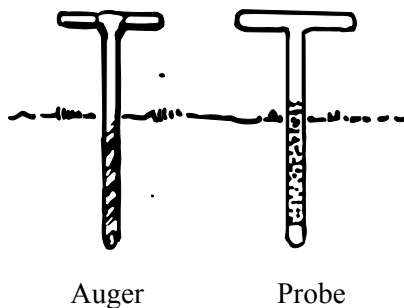

Figure 1. Soil probe or an auger marked for 6-inch depth is the recommended tools for collecting soil samples.
1. **Obtain the correct tool for soil sampling.** The recommended tool is a soil probe or auger marked for a six-inch depth (Figure 1). A clean plastic bucket is also needed to hold and mix soil cores before putting them in sample bag or other designated container.. (OSU Soil, Water and Forage Analytical Laboratory bags can be obtained from your local county extension office or fertilizer dealers.)